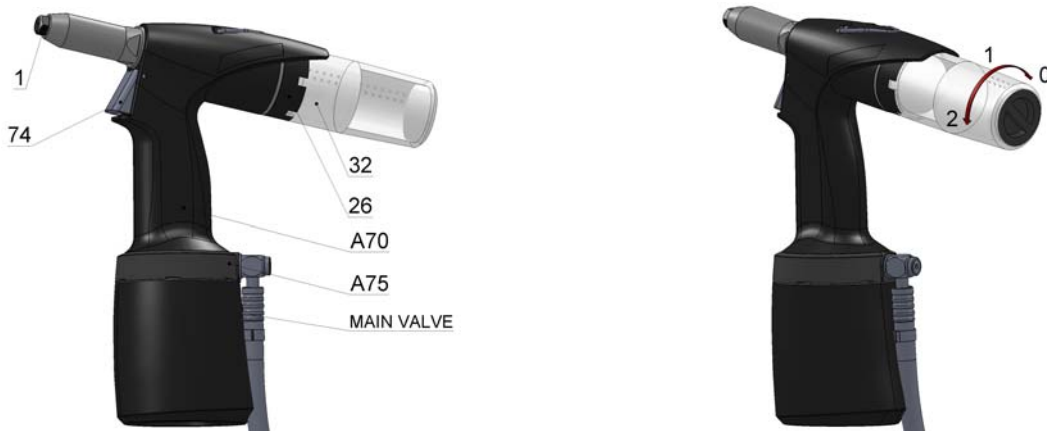

Fig. 1
The manufacturer equipped the tool with a nose-piece /fig.1 – pos.1/ for a rivet Ø 6.4. Riveting with blind rivets of different diameters (further on referred to as BR) requires use of appropriate nose-pieces that are located in the accessories casing of the tool.
Replacement of nose-pieces: Connect the tool to the source of compressed air, depress the trigger and screw out the nose-piece /fig.1 – pos.1/ with a spanner no. 12. Screw on a new nose-piece /acc. to the chart/ and tighten it. Now you can release the trigger of the tool.
The tool is equipped with revolving air supply /fig.1 – pos.A75/ which enables manipulation with air supply before as well as during tool operation, air hose does not obstruct riveting in any position.
The tool is equipped with multifunction trigger /fig.1 - pos.74/ which enables following:
- Unlock the trigger (shifting the trigger down to the stop) and release it. The suction is switched on and the trigger is in position see fig. 1.
The tool is equipped with a multifunctional mandrel container /fig.1 – pos.32/ which has the following positions:
Put and push the mandrel container /fig. 1 - pos. 32/ into the ring relief /fig.1 – pos.26/ end-to-end, thus you depress the arrestment element, and turn to position 1 or 2. The mandrel container shall thus be in place. The suction shall initiate in position 2. Relative position of the mandrel container with air outlets /fig.1 - pos.32/ and the ring relief /fig.1 – pos.26/ ensures that the outlet air pressure goes out in a suitable direction (e.g. offward the operator of the tool).
Turn the mandrel container /fig.1 - pos.32/ end-to-end to position 0 and pull it out of the ring relief /fig.1 – pos.26/. The suction shall thus switch off.
Suction switches off by turning and removing the mandrel container /fig.1 - pos.32/. Insert BR into the riveting tool through the nose-piece hole. Depress the trigger to move the jaws offward the BR head. The movement ends when reaching max. stroke, correct BR with respect for material gauge shall tear off the shank (riveting) for one stroke of the tool. Releasing the trigger shall return the jaws to initial position and released torn-off shank can be removed from the nose-piece by tilting the tool. /fig.1 - pos.1/.
Mounting and turning the mandrel container /fig.1 - pos.32/ to position 1 shall arrest it. Insert BR into the riveting tool through the nose-piece hole. Depress the trigger to move the jaws offward the BR head. The movement ends when reaching max. stroke, correct BR with respect for material gauge shall tear off the shank (riveting) for one stroke of the tool. Releasing the trigger shall return the jaws to initial position and the released torn-off shank can be transported into the mandrel container by tilting the tool.
Suction switches on by turning the mandrel container /fig.1 - pos.32/ to position 2. In this position the suction holds BR in the nose-piece /fig.1 - pos.1/ which enables riveting in any position without danger of BR falling out of the nose-piece of the tool. Depressing the trigger shall perform riveting. Releasing the trigger shall transport the shank into the mandrel container. If the mandrel container is full with shank to appx. 70%, it is necessary to remove and empty it in a specified manner (e.g. to a prepared container). Overfill of the mandrel container may result in failure of the riveting tool.